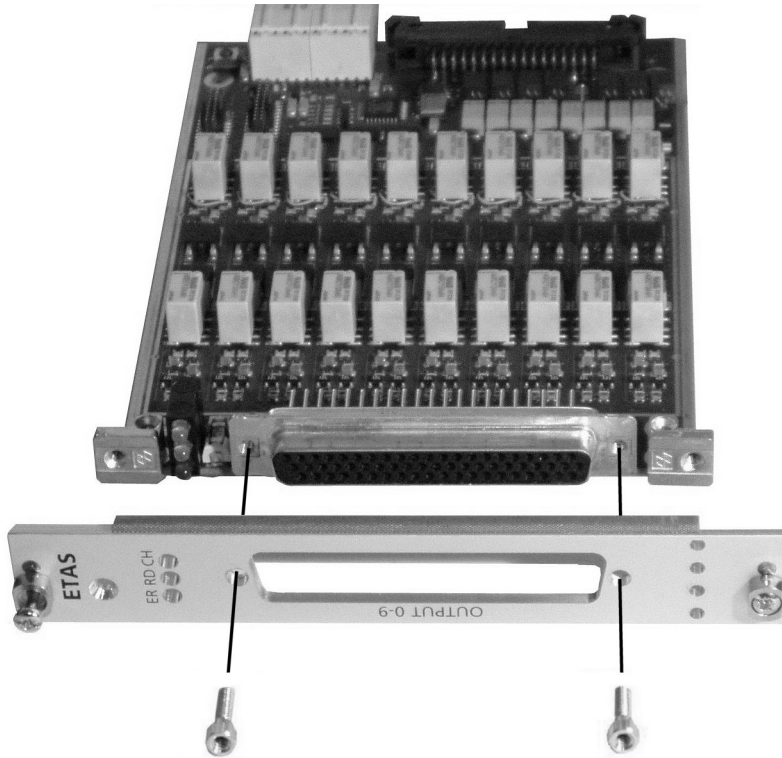

Fig. 4-2 Fastening the Front Panel at the Connector
- Fasten the front panel with the hexagon head screws above and below the "OUTPUT 0-9" connector (Fig. 4-2).